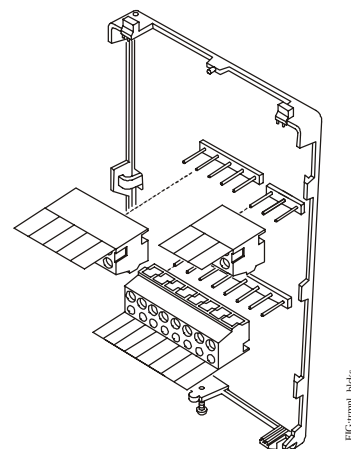

Figure 4: Removing the Screw Terminal Blocks
9. Pull the pull tabs on each of the connectors and remove the screw terminal blocks as illustrated in Figure 4.